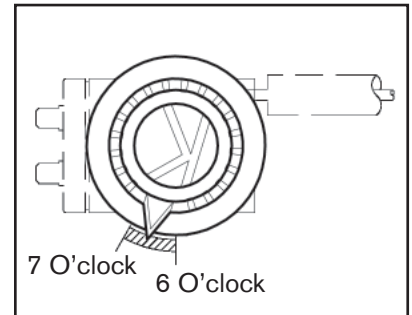

Figure 4
- 14. For the following Pasta thermostat, use Figure 4: